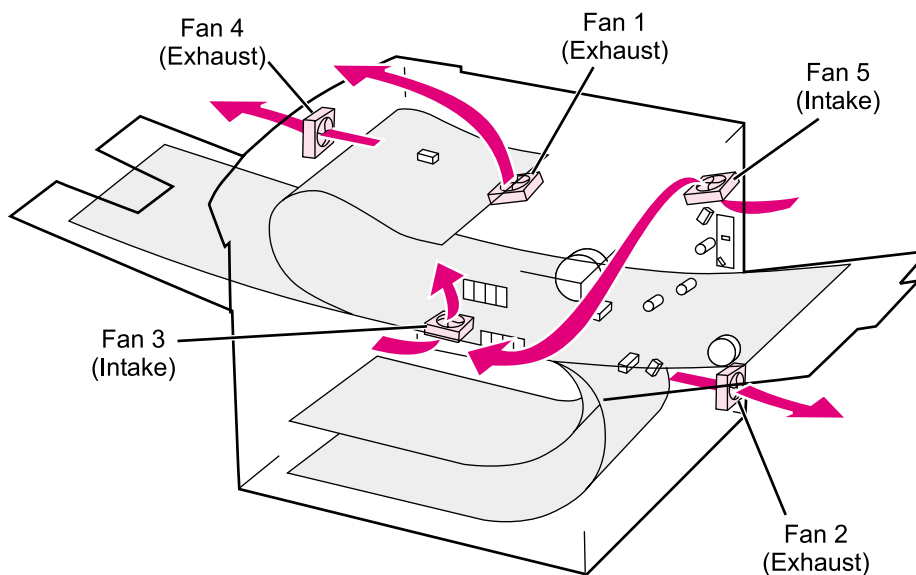

Figure 7-9 Fan Location and Airflow
3. Are the printer's fans on? (See figure 7-9 on page 596 to locate the fans.)	<p>Note: Fan operation is significant since all fans are controlled by the printer's DC Controller PCA. When the printer is in PowerSave mode, the fans are off. Make sure that the printer is not in PowerSave mode. Press Go. Operational fans indicate:</p> <ol style="list-style-type: none">1. AC power is present in the printer.2. DC power supply is functional (both 24V DC and 5V DC are being generated).3. DC Controller PCA's micro-processor is functional.